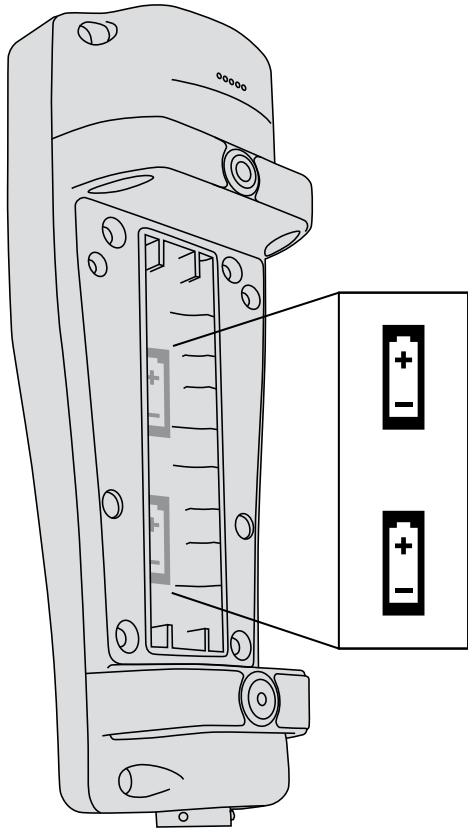

Figure 1 ProQuatro with battery cover removed. Notice the battery symbols indicating polarities.
3. Remove the battery cover and install the new batteries, ensuring correct polarity alignment (Figure 1).